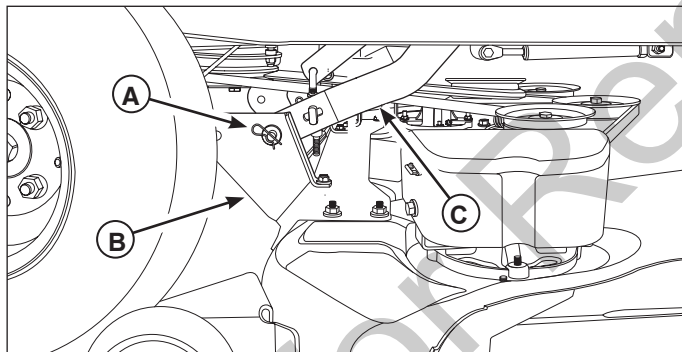

Figure 18. Rear Deck Lift Components
4. Remove the hairpin clips and washers (**A**, Figure 18) securing the rear mower deck brackets (**B**) to the rear lift arms (**C**), and pull the arms out from the holes in the brackets. Retain all removed hardware.
5. Insert the rear lift arms (C, Figure 18) into the front holes in the rear mower deck brackets (B), and secure each with a washer and hairpin clip (A).